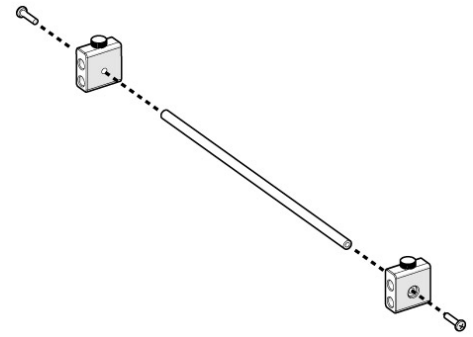

Figure 5. Cable lacing bar
Step 1. Insert the cable lacing pole into the adjustment blocks, then tighten the black phillips-head screws (see Figure 5).